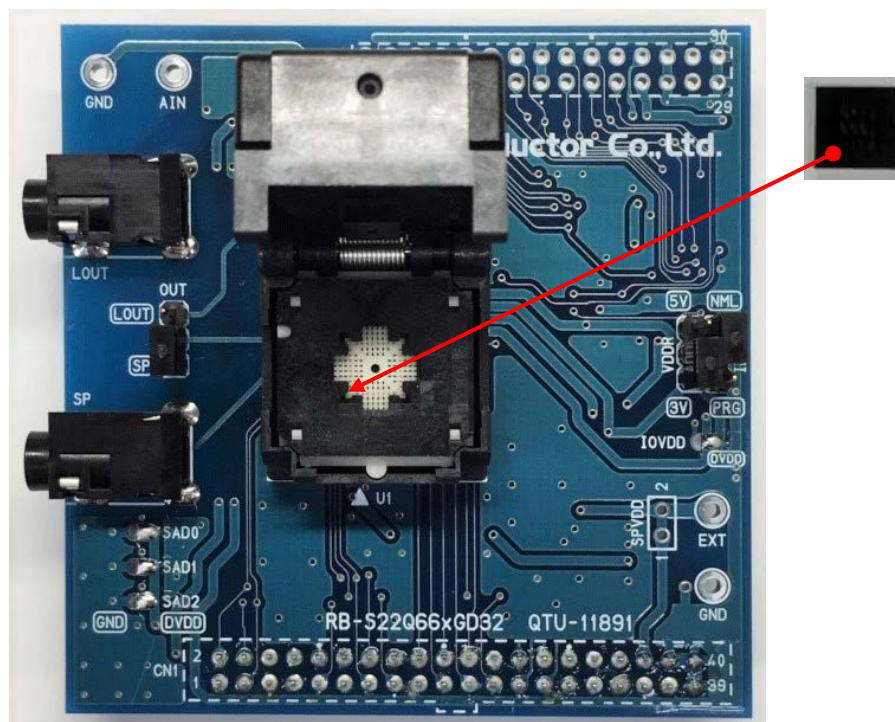

Figure 1 Outline Diagram
- Turn off the power when loading Speech Synthesis LSIs into the RB-S22Q66xGD32. Pin 1 is the position of the board silk ▲ at the bottom left with respect to the socket opening. The Figure 1 shows the setting directions of Speech Synthesis LSIs.